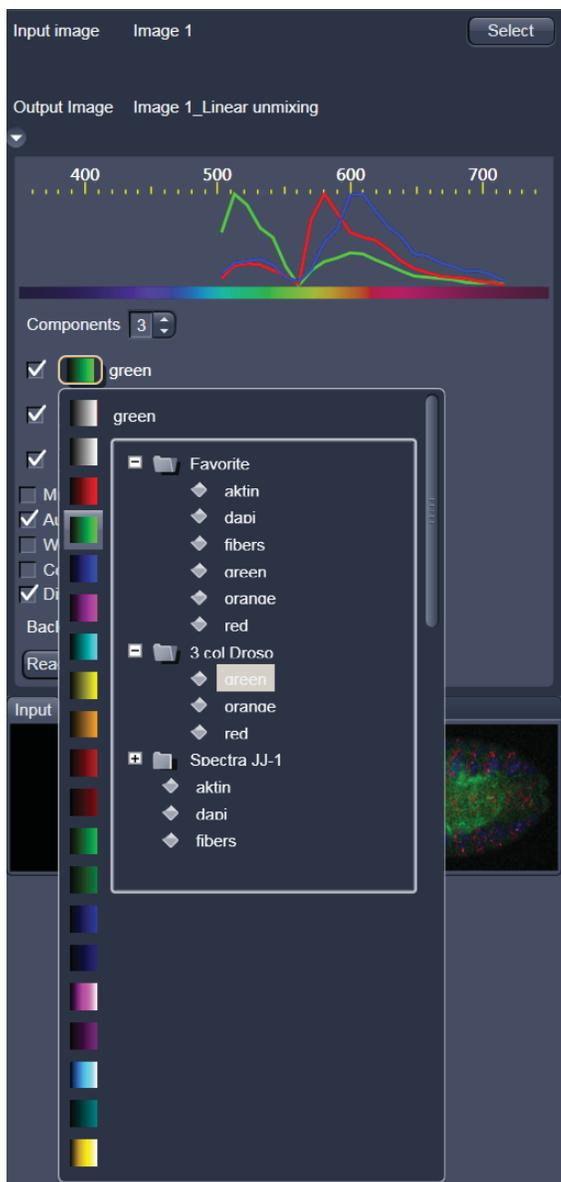

Fig. 4-98 Linear Unmixing: Spectra and LUT assignment
- Select the sample-specific fluorescence dye reference spectra from the **Spectra Database** (Fig. 4-98).
- Assign appropriate colors to the fluorescence channels by clicking on the color flag and choose from the available lookup tables (LUTs) (Fig. 4-98).